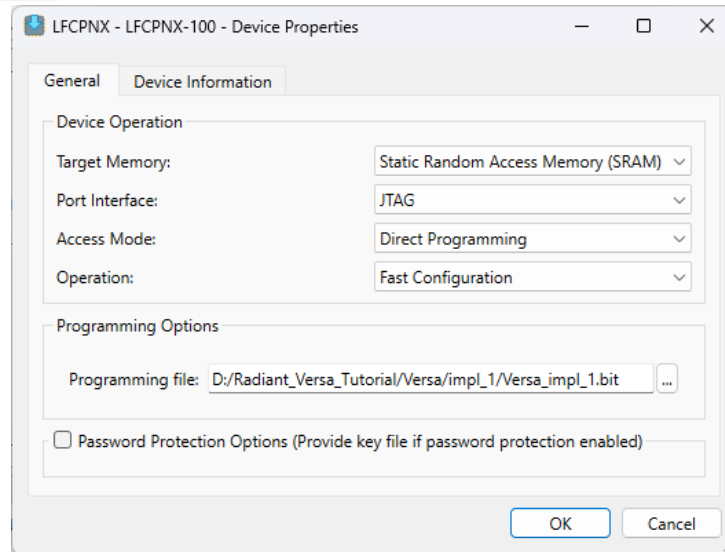

Figure 43: Device Properties Dialog Box
- ▶ For the programming file, browse to <Project Directory>/impl\_1/Versa\_impl1.bin, as shown in Figure 43.